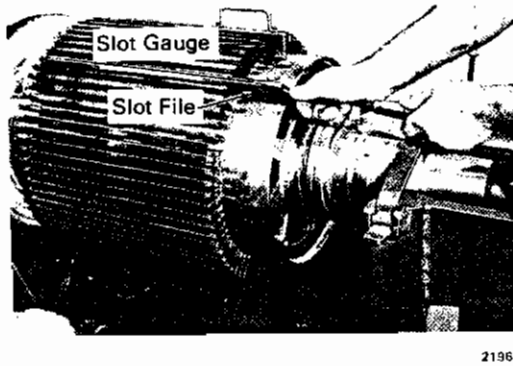

Fig. 4 - Filing Armature Core Slots
2. Check all slots to ensure that core laminations in slots are aligned and not bumped out-of-line. Check slots for alignment with slot gauge, Fig. 4. The gauge is to fit slot with a slight "feel" and should be neither loose nor tight. If laminations have been bent, they may be realigned by inserting a wedge, the same size as the gauge, and tapping lightly with a mallet. Use care so as not to roughen or burr laminations. If core slots are tight, file the core slots with a slot file as shown in Fig. 4. Do not file the core slots excessively to cause shiny spots. Excessive filing will cause drag-over of laminations which will result in shorting between the laminations causing core heating (hot spots) during operation. Refer to Service Data for gauge and file part numbers.